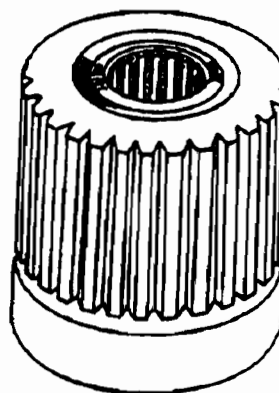

Figure 2
4. Bushing in the front end of the output shaft for wear and/or damage. This bushing supports the forward clutch drum, and the overdrive center shaft. Replace bushing on *all* units during rebuild (See Figure 2).
Inspect and replace as necessary (See Figure 2).